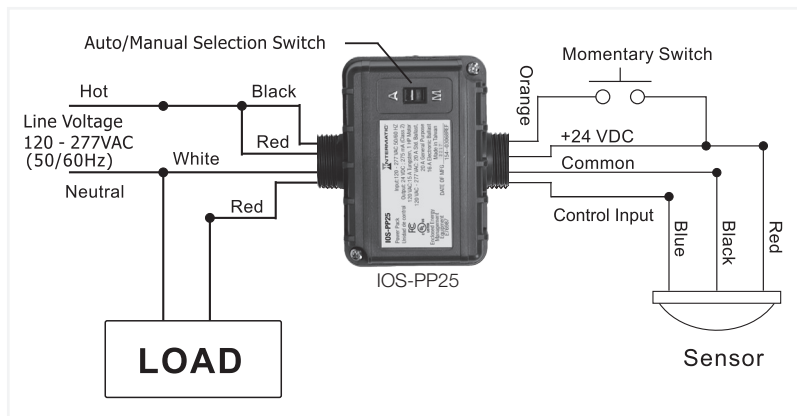

Figure 1
- 4.) Connect the wires as shown in Figure 1. (Use copper wire only)
- 5.) Set the mode on the front panel of the device to, (A) for Auto (Occupancy mode) or (M) for Manual (Vacancy mode)